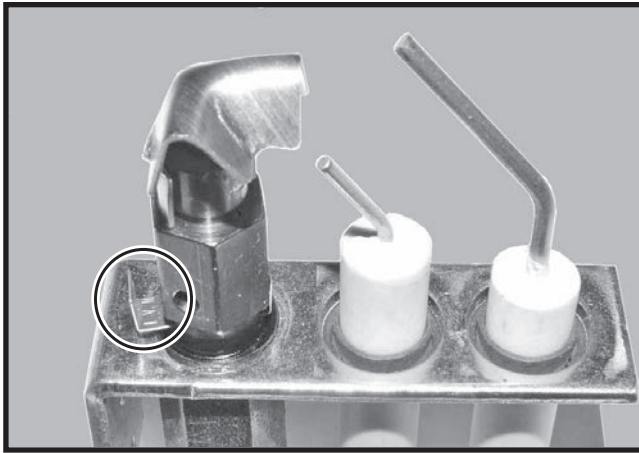
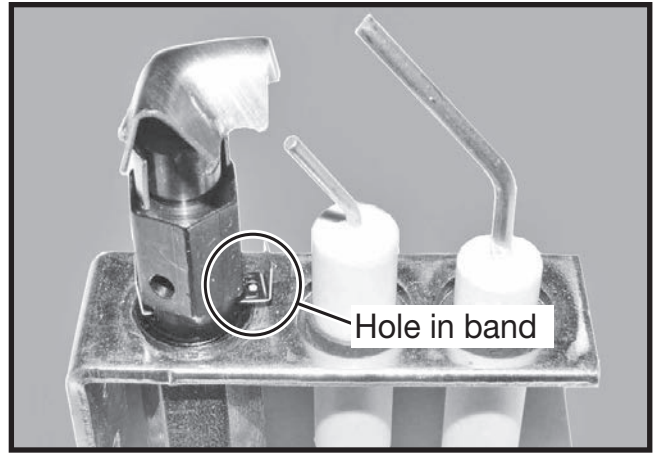

Figure 38: Band in natural gas position.
Figure 39: Band in liquid propane position.
12. Slide the pilot adjustment band over and ensure that the hole in the orifice band is showing. Figure 38 shows the pilot in the natural gas position. Figure 39 shows the pilot in propane gas position.